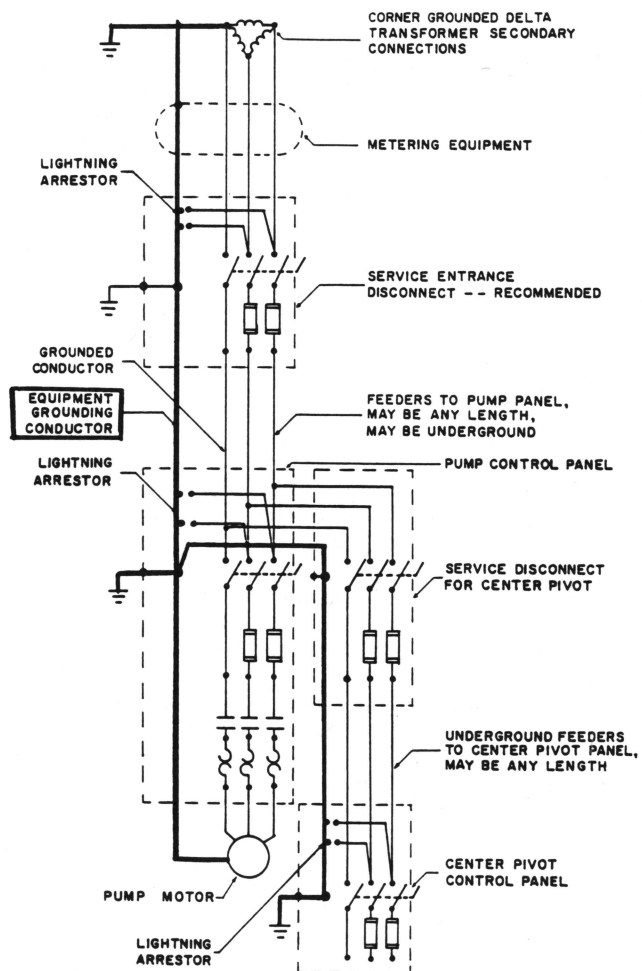

Figure 2. This is a properly grounded irrigation system. Note that all metal enclosures, equipment and grounds are connected by a grounding conductor.
- Ground rods should be driven as indicated in Figure 2. Steel or iron rods should be at least $\frac{5}{8}$ inch in diameter. Non-ferrous rods should be at least $\frac{1}{2}$ inch in diameter. All rods must be driven at least eight feet deep.
- Grounding conductors must be metallically bonded to the ground at the source of electrical supply. (See Figure 2.)